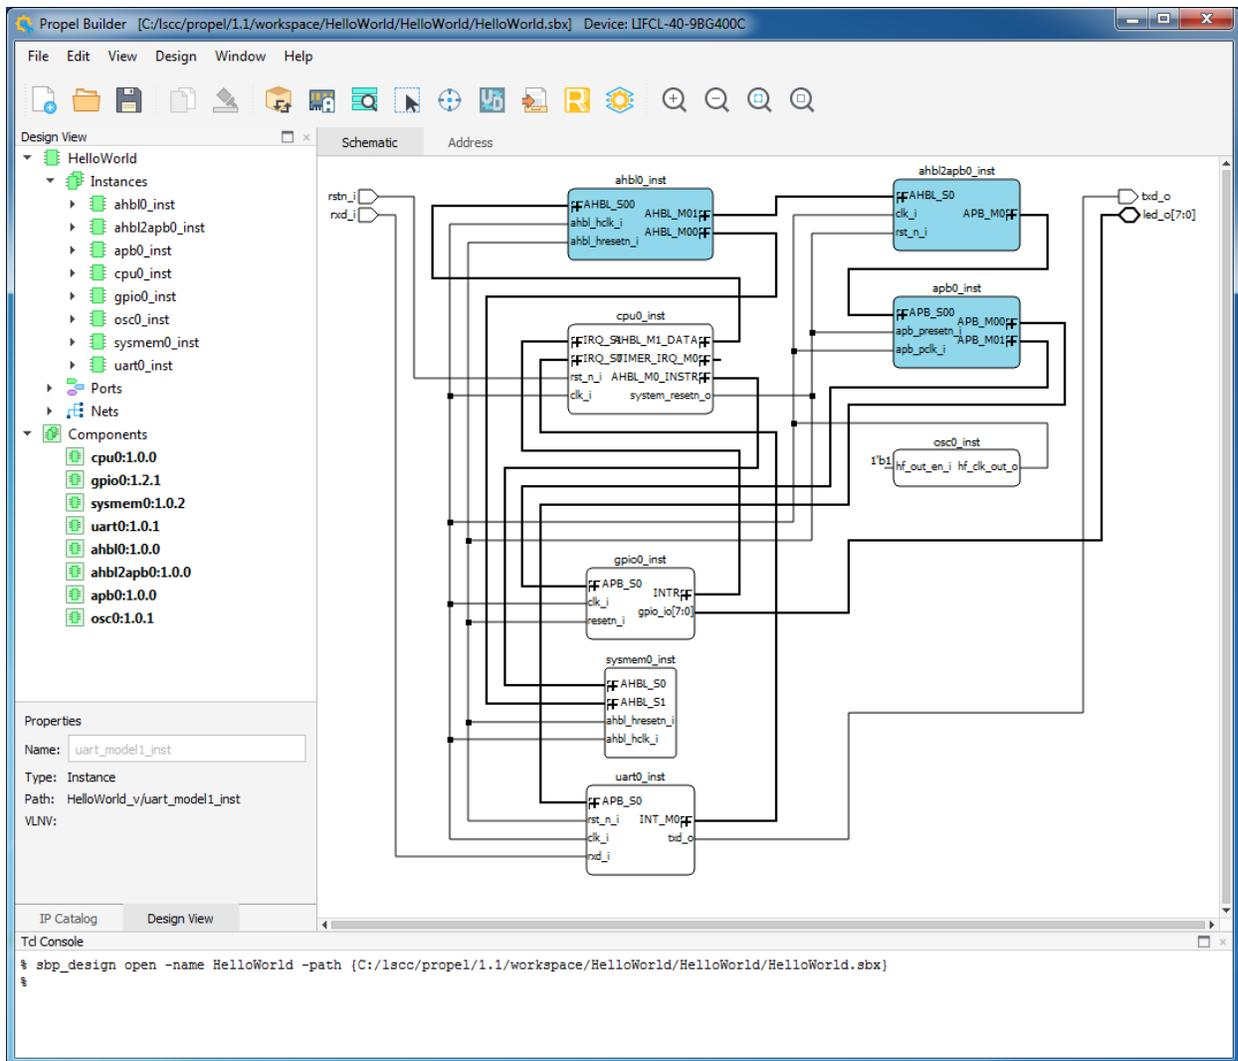

Figure 2.11. Propel Builder GUI shows Template Project
8. Click **Finish**. Propel Builder GUI opens (Figure 2.11).